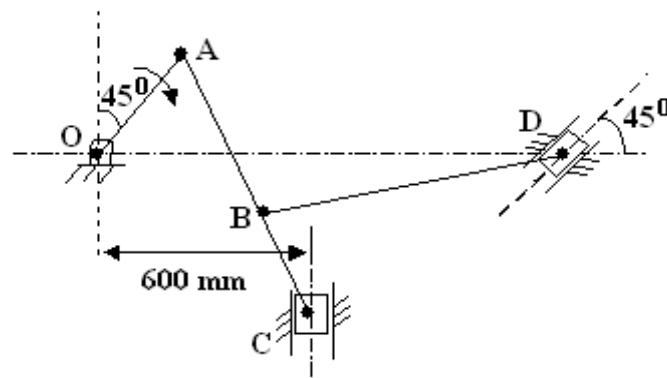

Figure 4
4. Figure 4 shows a mechanism in which OA = 300 mm, AB = 600 mm, AC = BD = 1.2 m. OD is horizontal for the given configuration. If OA rotates at 200 rpm in the clockwise direction find: